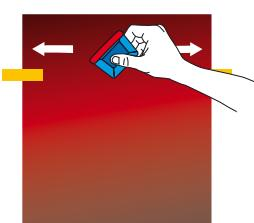

Figure 06
- › Start applying the film with a squeegee (previously covered with felt), by forming a 45° angle with the substrate and working from the centre towards the edges. (FIG. 06)